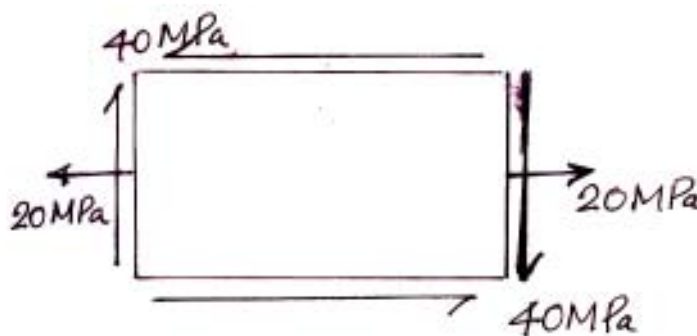

fig. Q. 3(b)
3. b) At a point in a strained material, the state of stress is as shown in fig. Q. 3 (b). Find :